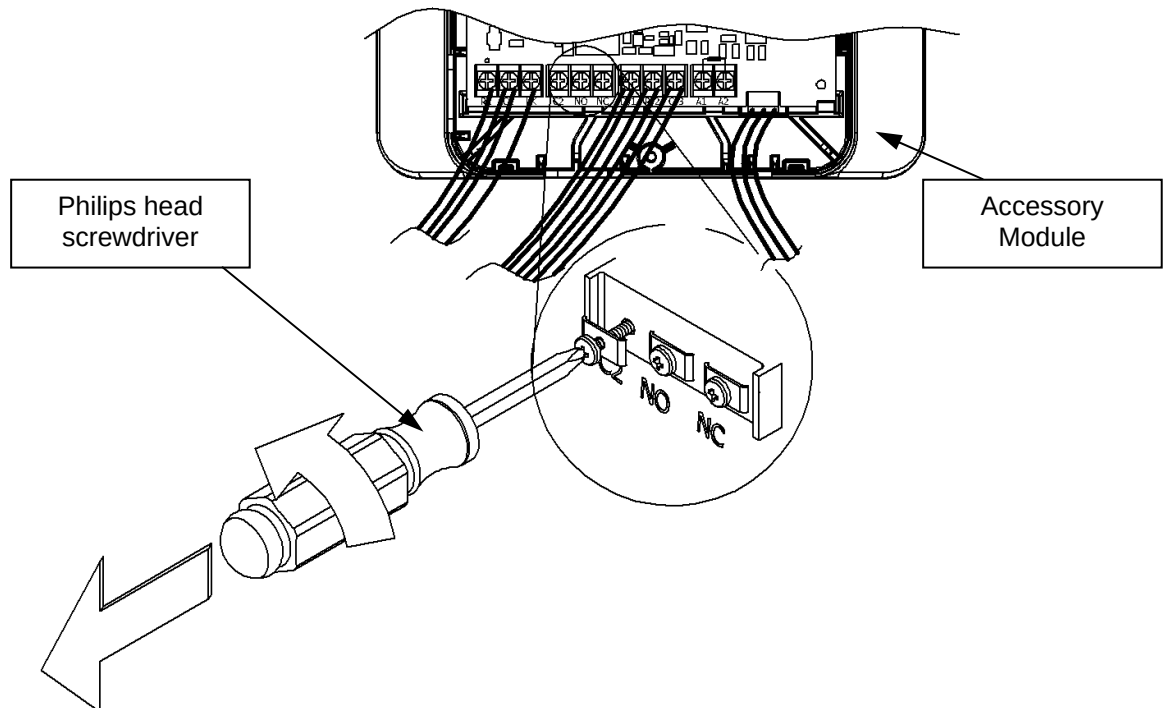

Figure 75
Step 8: Loosen the (3) screws on the Accessory Module labeled “C2,” “NO,” and “NC.” This is shown in Figure 75.